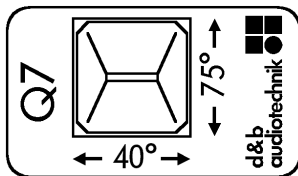

Fig. 11: Q7 horn dispersion label
2. Rotate the horn through 90° - Fig. 11.